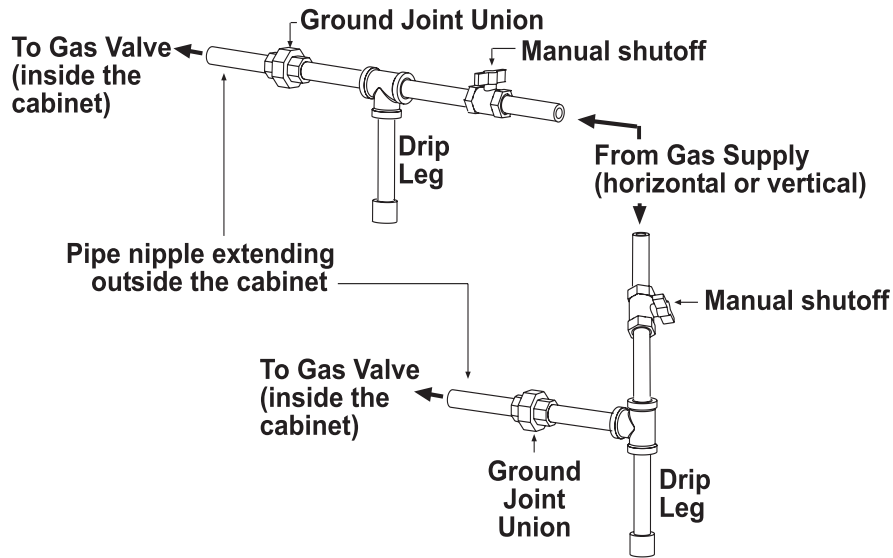

Figure 9. Gas Connections
- Install a ground joint union and manual shutoff valve upstream of the unit control system, as shown in **Figure 9**.
- The 1/8-inch plugged tapping in the manual shutoff valve in **Figure 9** provides connection for a supply line pressure test gauge.
- The National Fuel Gas Code requires the installation of a trap with a minimum 3-inch drip leg (see **Figure 9**). Local codes may require a drip leg longer than 3 inches (typically 6 inches). To permit burner removal, this drip leg must extend beyond the edge of the heater.
- The gas connection is made at the pipe nipple that extends outside the cabinet, as shown in **Figure 9**. Gas connection sizes are listed in **Table 8**.